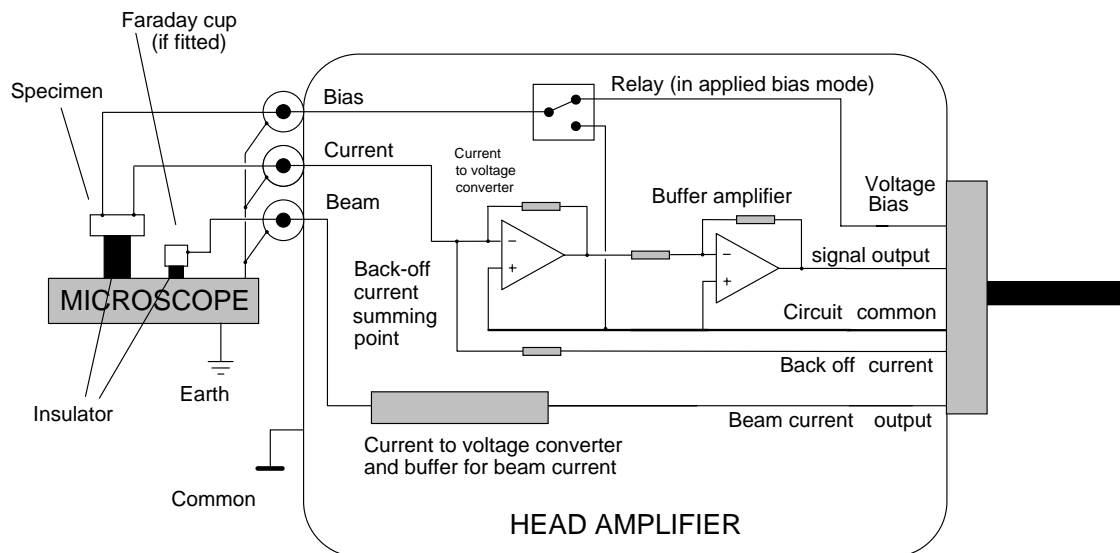

Fig 8. Schematic of the internal electronics of the ICA-1 head amplifier
A schematic of the internal circuitry components of the ICA-1 head amplifier and their relationship with the specimen and microscope is shown below in Fig 8.
1. Ensure that the **BIAS VOLTAGE** and **BACK-OFF CURRENT** facility are switched out (switches in centre position). Set the **ANALOG OUTPUT GAIN** to unity (1), the **VAR.** control fully anticlockwise and the **BIAS** to zero (- and + LEDs off).
2. Connect up the sample as shown in Fig. 8.